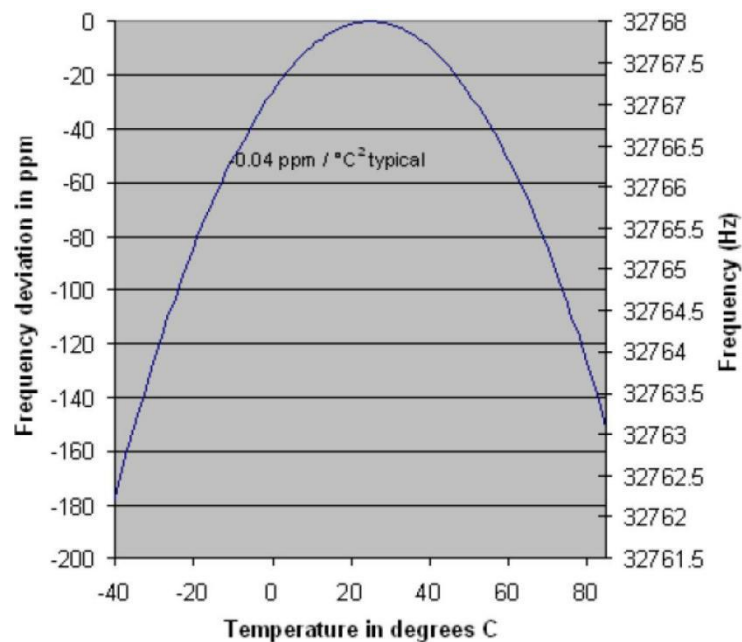

Figure 2. Crystal frequency vs. temperature.
In addition to the errors from the crystal and the load match, crystals vary from their base frequency as the ambient temperature changes. RTCs use "tuning fork" crystals, which exhibit an error over temperature, as shown in Figure 2 . An error of 20ppm is equivalent to approximately 1 minute per month.
3. If possible, place a guard ring (connected to ground) around the crystal. This helps isolate the crystal from noise coupled from adjacent signals. See Figure 2 for an illustration of using a guard ring around a crystal.